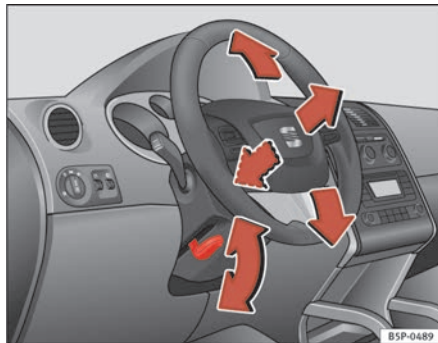

Fig. 115 Adjusting the steering wheel position
- Push the lever under the steering column ⇒ fig. 115 down ⇒ ⚠.